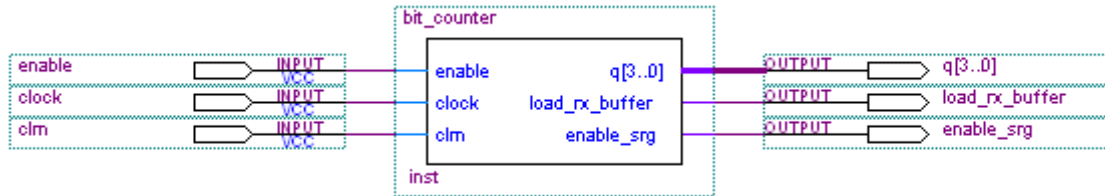

Figure 6 Decoded Counter (bit counter)
1. Create a counter like the one shown in Figure 6, using VHDL design entry. *Do not use the Quartus II Block Diagram Editor.*